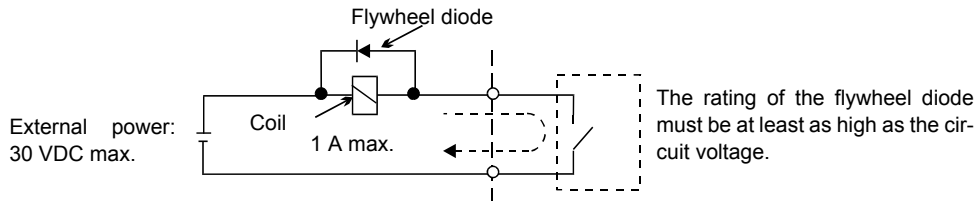

Fig 2.12 Flywheel Diode Connection
- \* 4. When driving a reactive load, such as a relay coil with DC power supply, always insert a flywheel diode as shown in Fig 2.12.